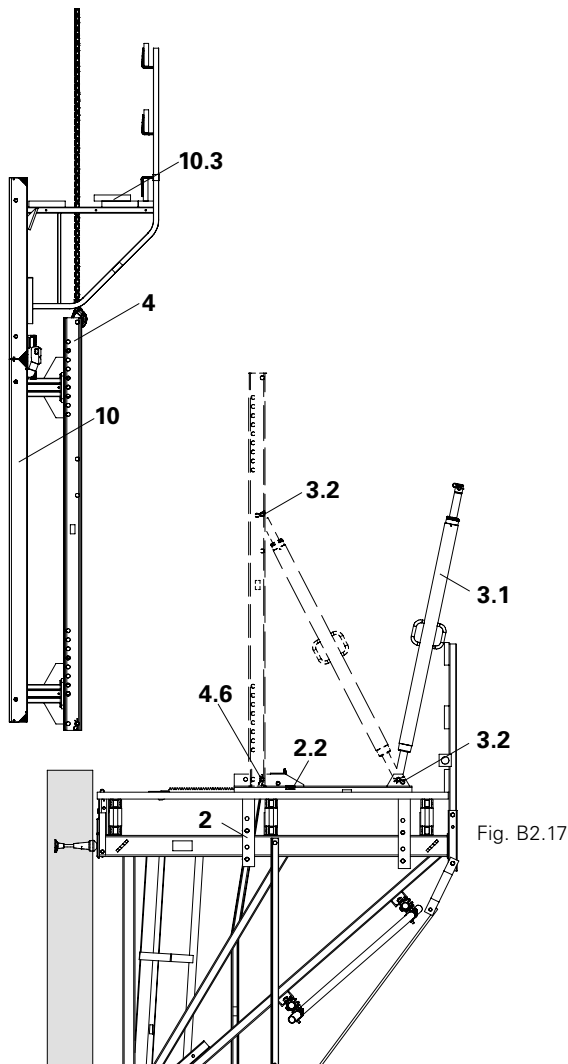

Fig. B2.17
1. Retract Carriage (2) and secure with wedge (2.2).
4. Attach formwork unit (10) with concreting platform to the Strongback (4) and position on the platform. (Fig. B2.17)